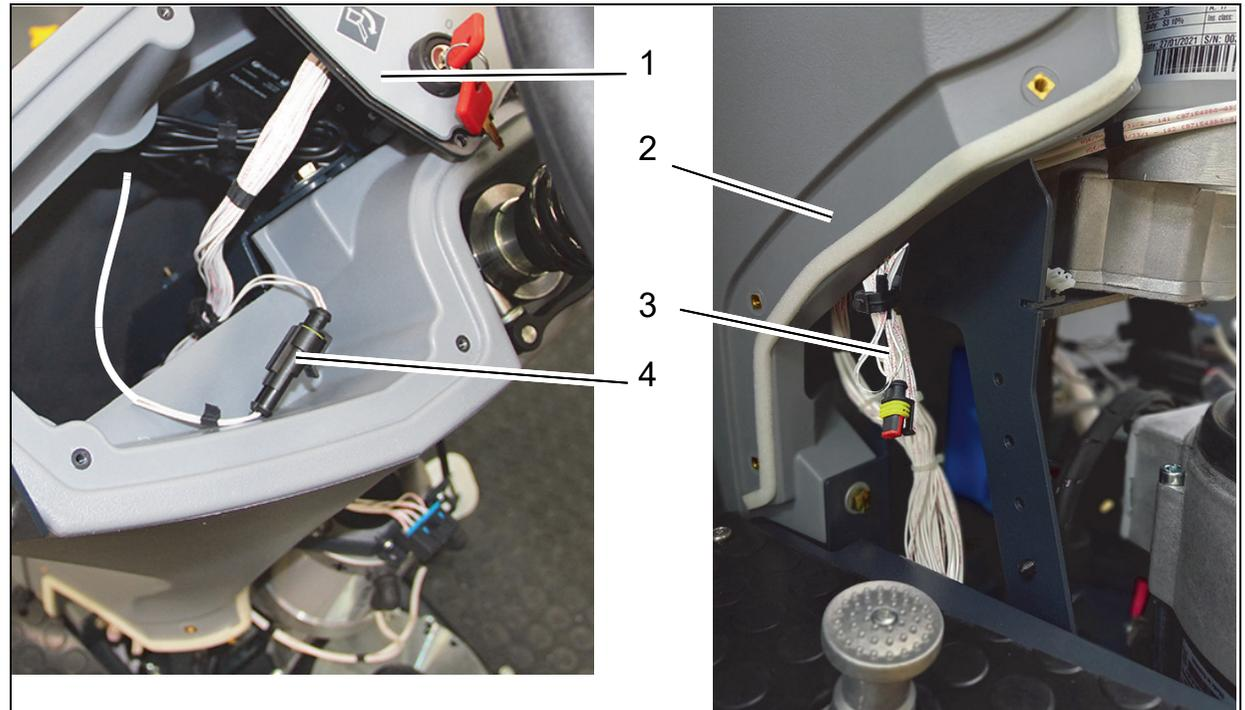

Fig. 2
1. Remove the control panel (Fig. 2/1).
2. Remove the engine cover at the steering column (Fig. 2/2).
3. Undo the cable loops (Fig. 2/3) at plug E14/cable loom W3.
4. Route plug E14 upwards and connect it to plug XE14 of the BlueSpot (Fig. 2/4).